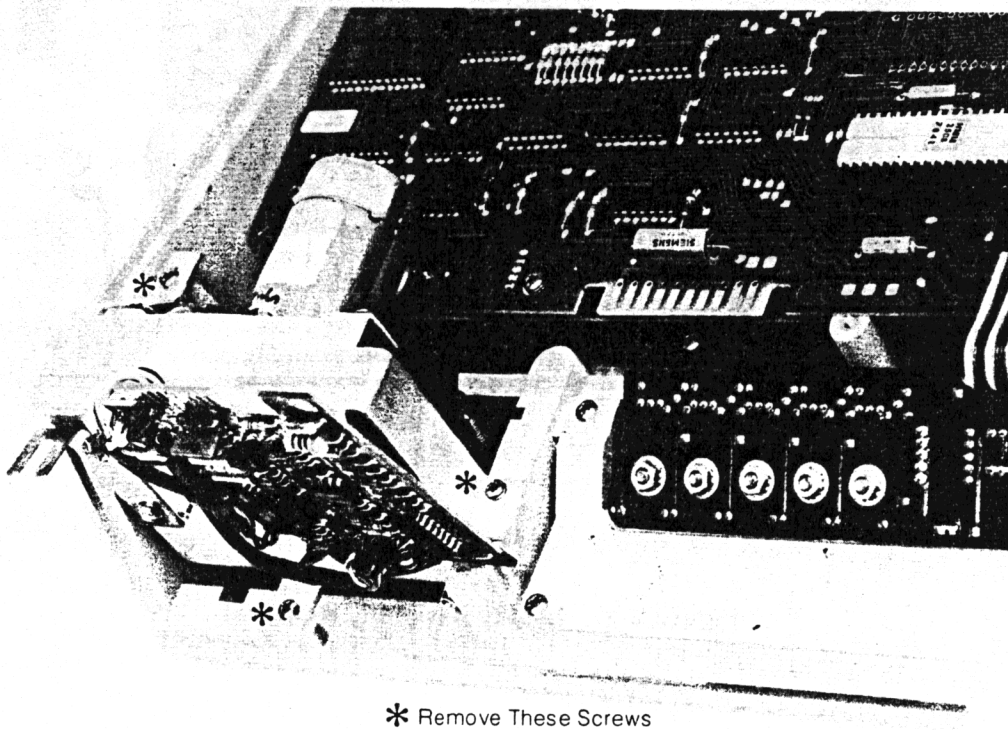

Figure 2-9 Tape Transport Assembly Removal
- Carefully move the analog board so that the screw underneath it can be removed. Figure 2-9 shows the analog board rotated 90 degrees to give access to the lower screw.